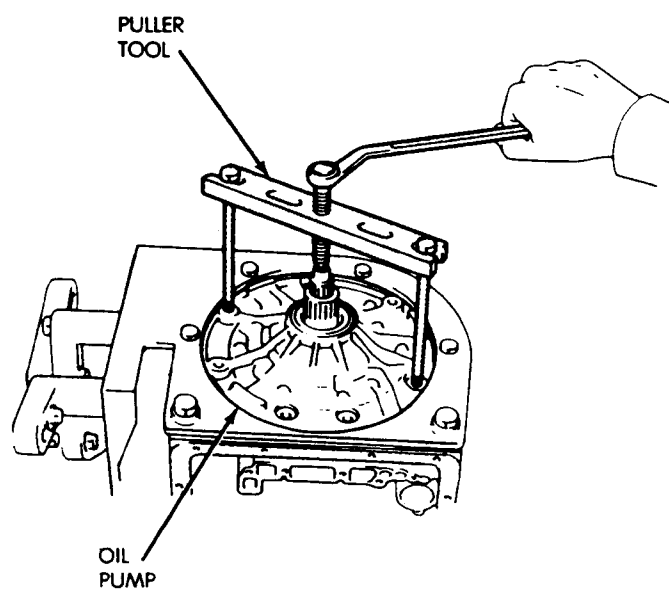

Fig. 15 Removing Oil Pump
(23) Remove oil pump bolts and remove pump with bridge-type puller B.Vi. FM. 25 (Fig. 15).